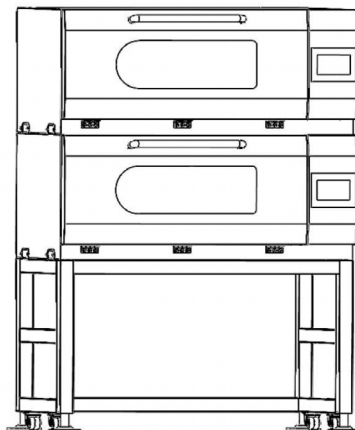

Fig. 6-4: Shaker Installed on Base
- Repeat the above steps to complete the screw fixing in 4 holes. Then install the 4 cover plates to enhance the aesthetics. Tighten all screws equally. The shaker mounted on its base will look as shown (see Fig. 6-4 on p. 18):